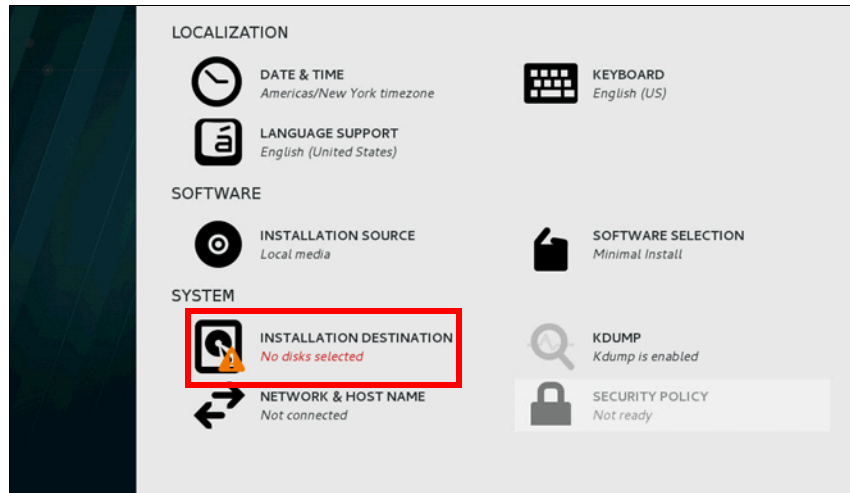

Figure 6-57 Installation destination option
12. A GUI will appear as shown in Figure 6-57 on page 215. Select the **Installation Destination** option to select where the RHEL installation will be installed.